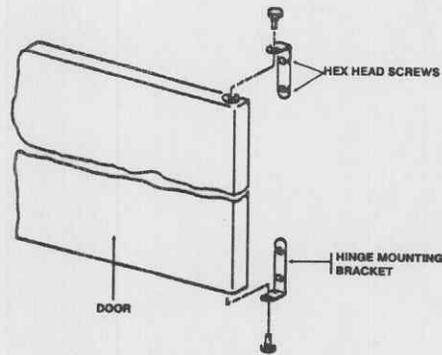
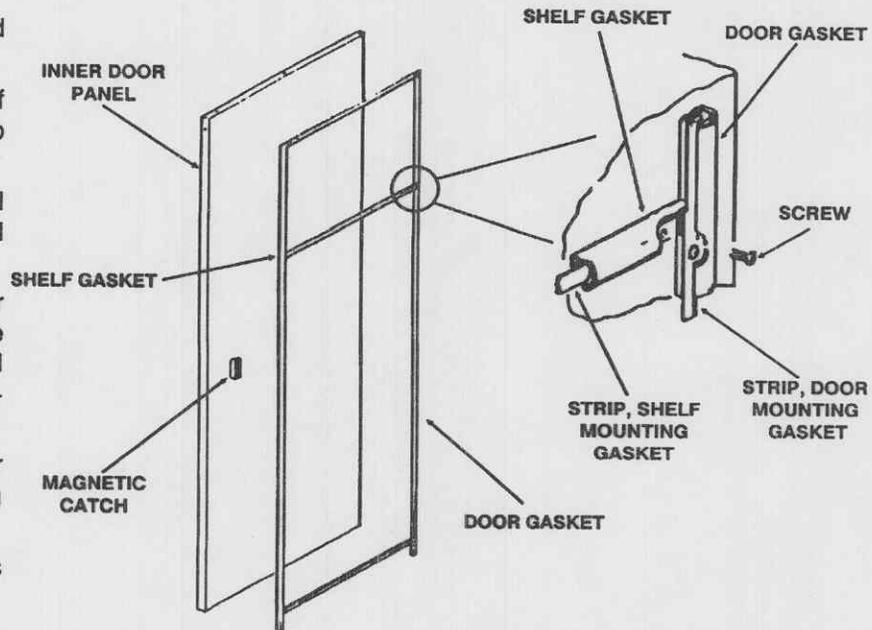
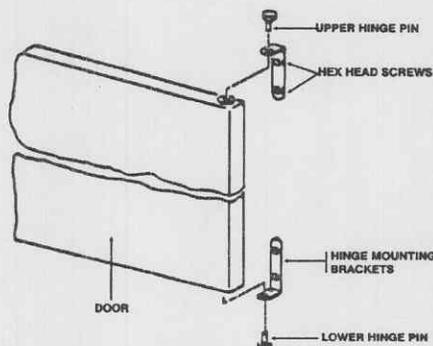
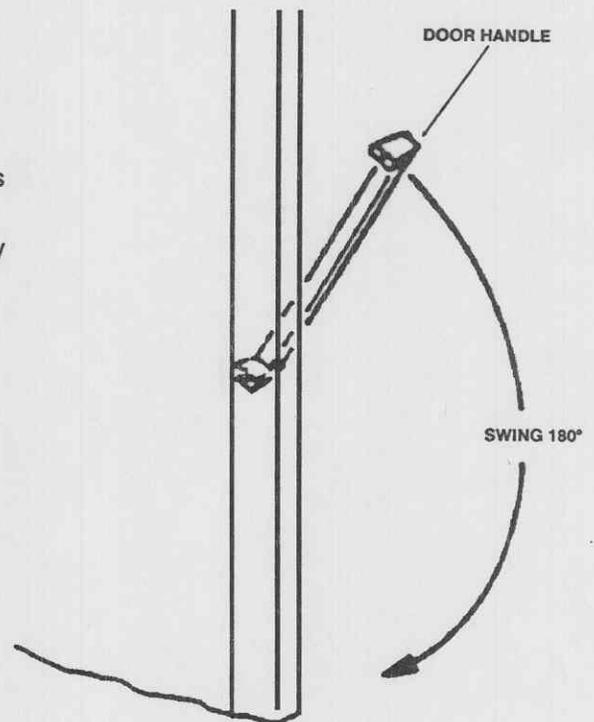

Figure 3-13. Door brackets.
Figure 3-14. Door and shelf gaskets.
Figure 3-15. Door hinges.
Figure 3-18. Door handle.
a. Adjustment (fig 3-13).
- (1) Loosen the two hex head screws on both the upper and lower hinge mounting brackets.
- (2) Arrange blocking under the lower edge of the door to align it with the front of the cabinet.
- (3) Tighten the hex head screws.
- (4) Ensure that the door alignment is correct or repeat steps (1) through (3) again.
b. Gasket removal and replacement (fig 3-14).
(1) Ensure that the warming cabinet is off by depressing the power off switch.
(2) Open the door fully and stabilize it with blocking.
(3) Lift the edge of the shelf gasket to expose the mounting strip and the Phillips-head screws.
(4) Remove the screws and then remove the mounting strip and shelf gasket.
(5) Lift the edge of the door gasket to sequentially expose the mounting strips and the Phillips-head screws. Remove the screws, mounting strips, and door gasket.
(6) Clean the edge of the inner door panel with a mild cleaning agent.
(7) Insert the mounting strips into the new gaskets.
(8) Install new gaskets by sequentially replacing the screws around the gaskets.
c. Door swing conversion (fig 3-15 through fig 3-18).